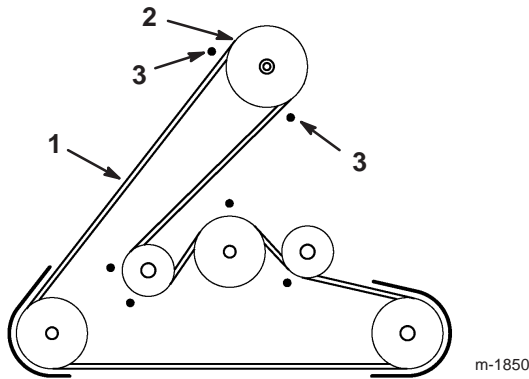

Figure 41
19. Remove the mower belt from the lower engine pulley (Fig. 41). If you are careful, you can flex the belt guides just far enough away from the pulley to remove the belt. If it is too difficult to remove the belt, loosen the bolts and nuts securing the belt guides.
8. Install the mower belt onto the lower engine pulley (Fig. 41). If you are careful, you can flex the belt guides just far enough away from the pulley to install the belt. If it is too difficult to install the belt, loosen the bolts and nuts securing the belt guides.